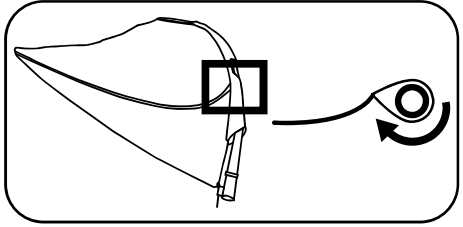

Figure 3: Downhaul slowly until the front of the foot batten “pops” to the other side of the mast.
c) Begin downhauling slowly while observing the front of the foot batten. Continue downhauling just until the front of the foot batten “pops” to side of the mast (figure 3) and then stop downhauling.